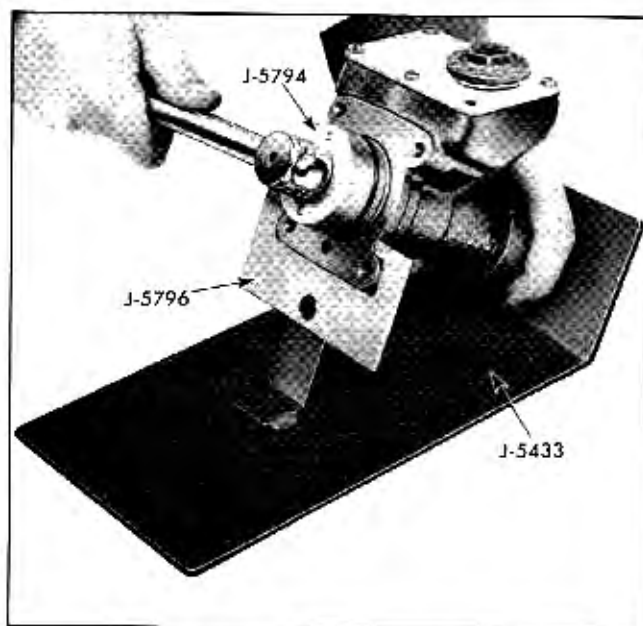

Fig. 5-48 Removing or Replacing Cylinder Plug Assembly
1. Clamp master cylinder in fixture J-5433 with adapter J-5796 or in a vise in vertical position and remove cylinder plug assembly using special spanner wrench J-5794 (Fig. 5-48).